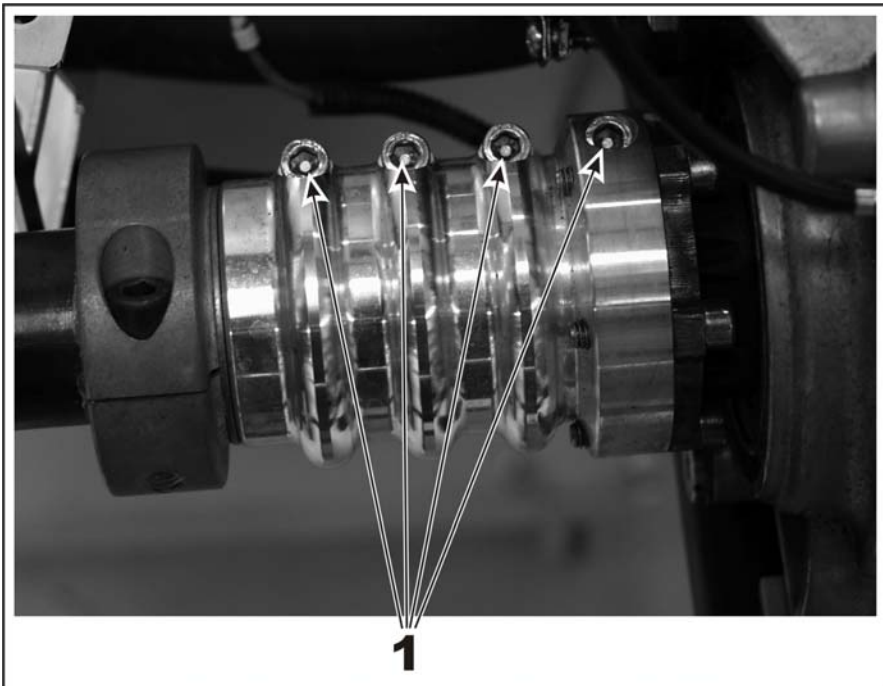

Fig. 5
- ➔ Tighten the 4 allen screws (1) on the overload clutch with 10 Nm (88 lbf.in.) see Fig. 5